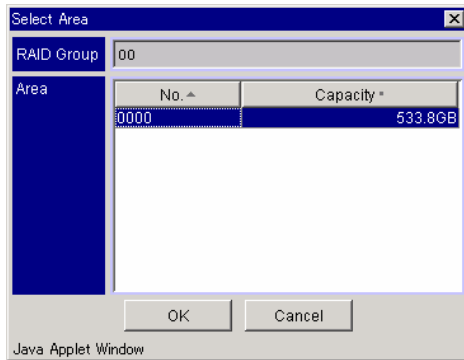

Figure 5.18 Select Area Dialog Box
5. Select a **Logical Unit No.**, a **Default Controller**, and the input **Size**. Click **Select**. See Figure 5.18.